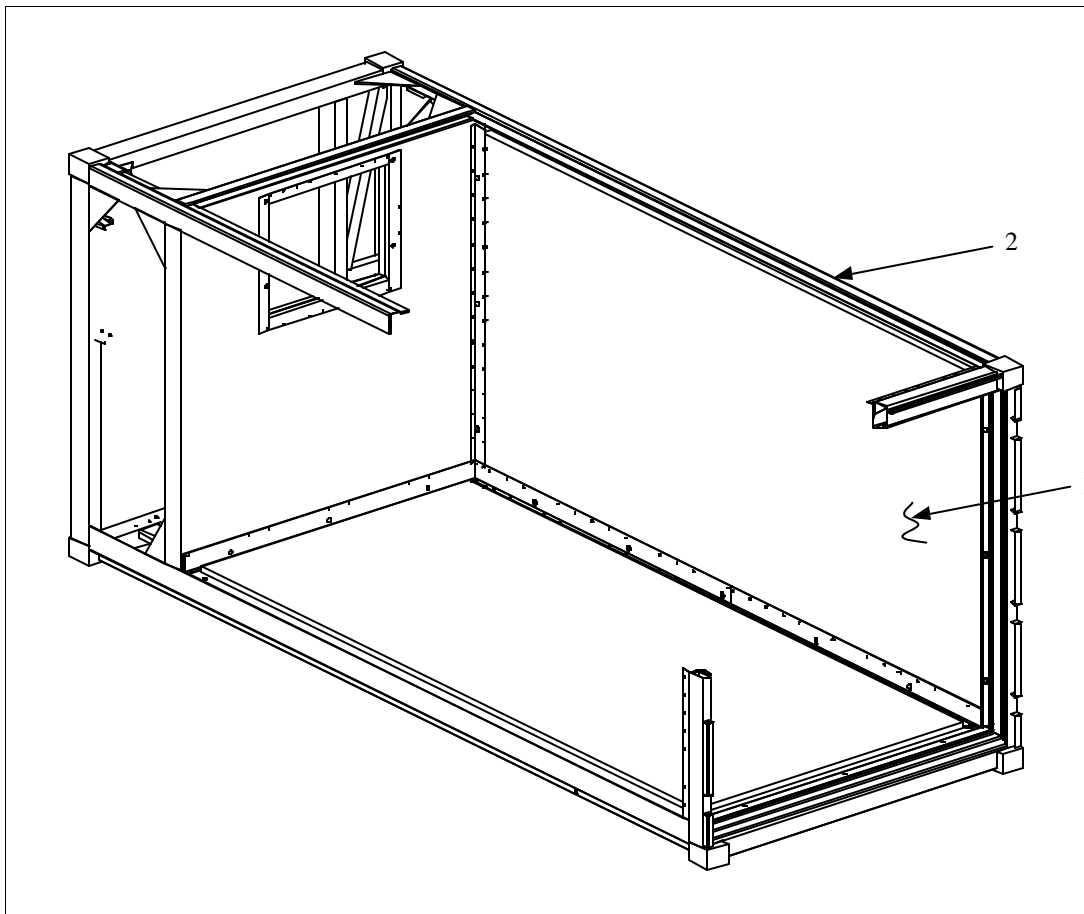

Figure 2. Panel Installation (Sheet 1 of 4)
1. Using hoist (Section III, Item 14, WP 0048 00) and sling (Section III, Item 9, WP 0048 00), lower replacement side panel (1, Figure 2) through opening in top of container frame (2).